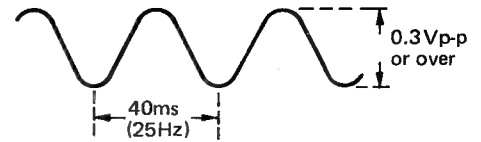

Figure 8-12.
2. Monitoring AN pin 5 with an oscilloscope (internal trigger), check that the requirements given in Figure 8-12 are met.